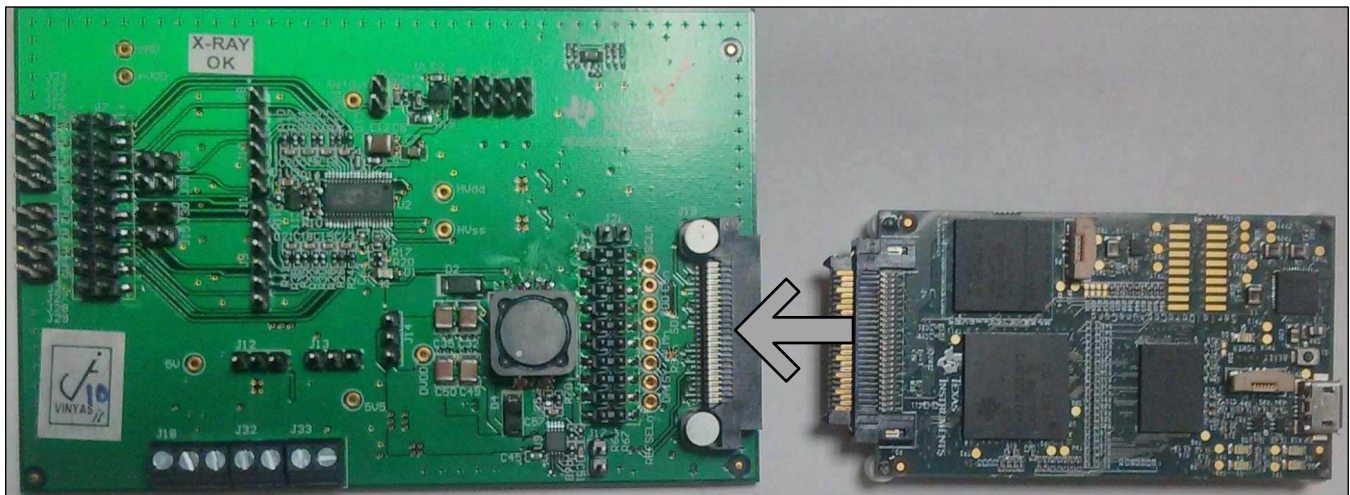

Figure 7. Connecting the ADS86xxEVM Board to the Simple Capture Card
3. Connect the ADS86xxEVM board to the simple capture card; see Figure 7.